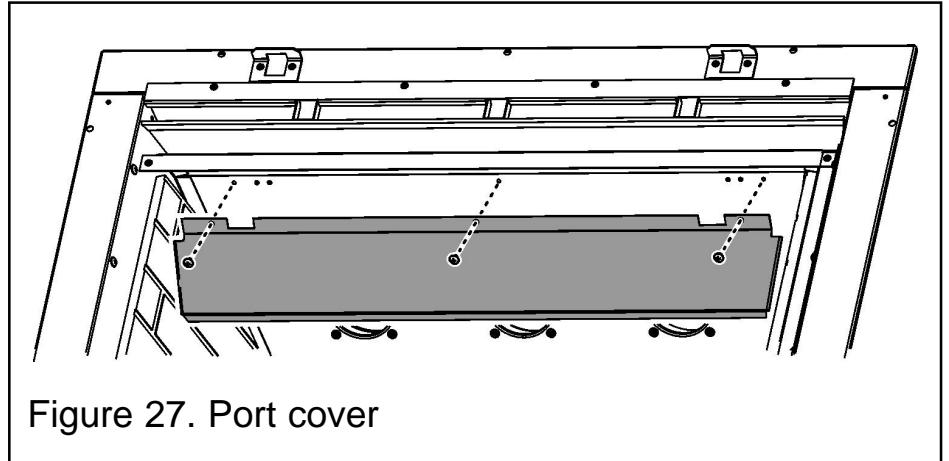

Figure 27. Port cover
The port cover supplied with the fire needs to be fitted to the inner top of the convection box. Locate the port cover, being careful not to scratch the ceramic side walls, and secure with three No. 8 x 3/8" screws supplied (See figure 27).
2. Support the upper port cover, then unscrew and remove the three securing screws (See figure 27). Gently remove the port cover ensuring that the side ceramic side walls are not scratched.